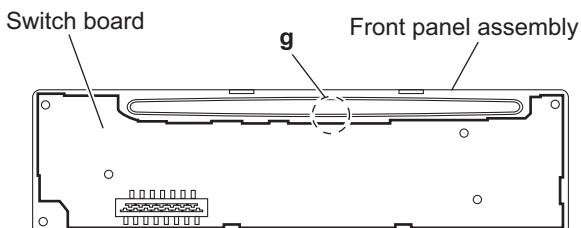

Fig.10
- (3) Release the joint **g** and remove the switch board from the front panel assembly. (See Fig.10.)